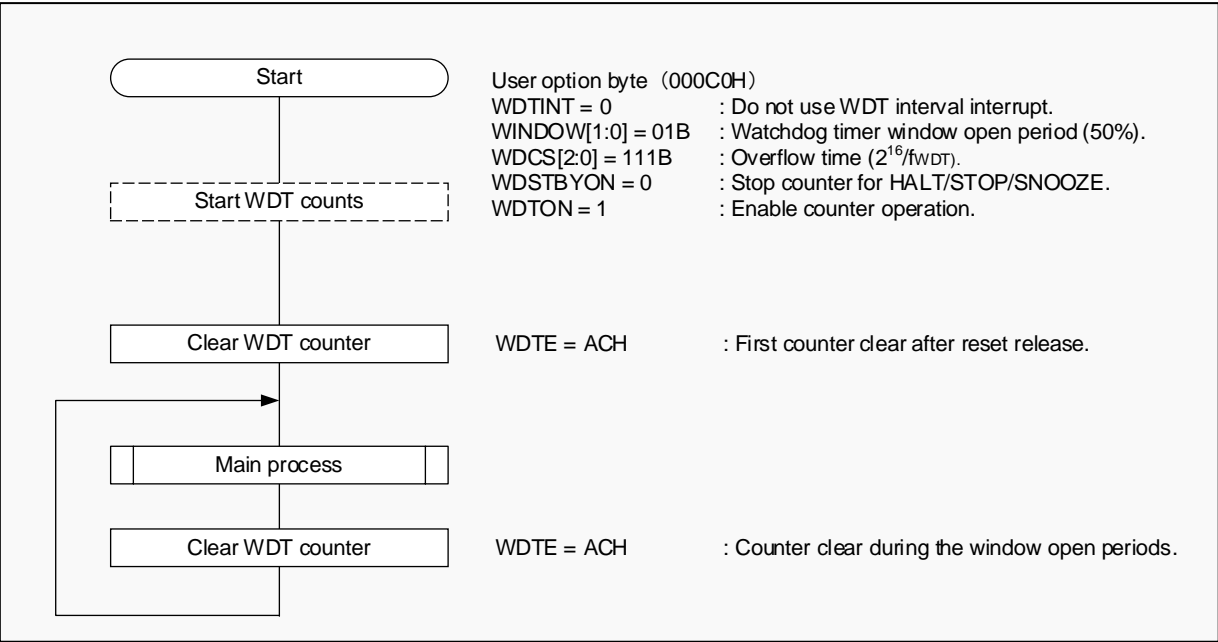

Figure 15-1 Flow Chart of Watchdog Timer Function
Figure 15-1 is a flow chart of using the watchdog timer.
P.60	Revised "Figure 15-1 Flow Chart of Watchdog Timer Function".